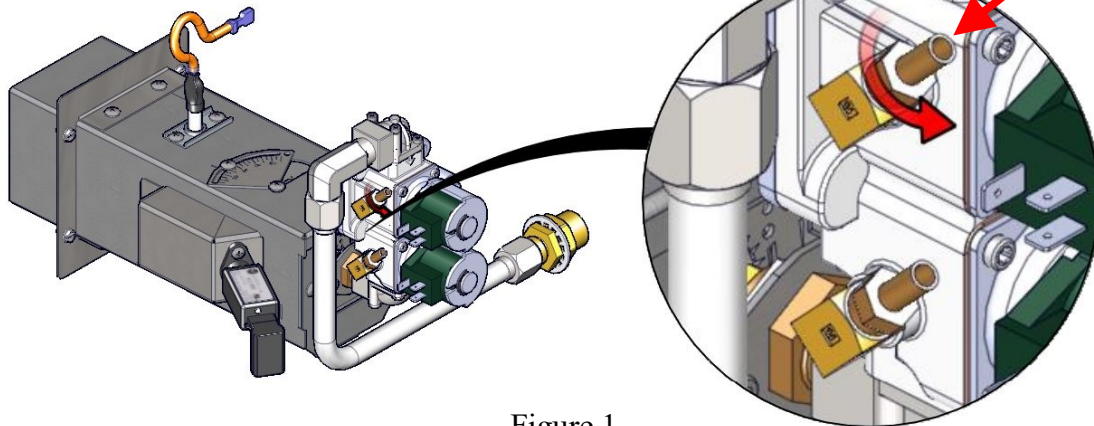

Figure 1
- Loosen screw one (1) full turn counter clockwise (Figure 1).